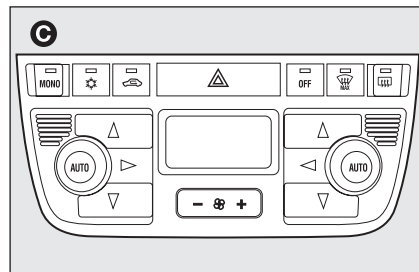

fig. 7
- with two-zone automatic climate control system **C**-**fig. 7**.